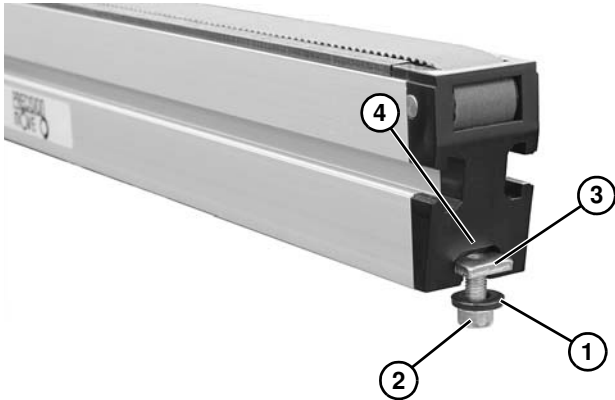

Figure 9
1. Assemble washer (**Figure 9, item 1**) onto socket head screw (**Figure 9, item 2**). Thread bolt into slide-in nut (**Figure 9, item 3**). Repeat for a second bolt, washer, and nut.
2. Insert bolt and nut assemblies through end cap (**Figure 9, item 4**) and into conveyor channel. Slide one down the channel, keeping the second close to the end of the conveyor.